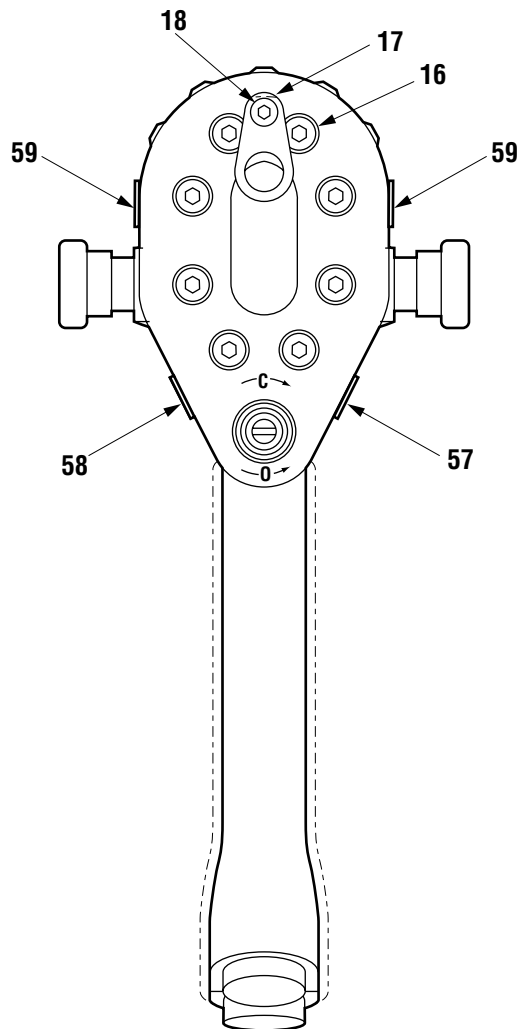

Figure 6
### Motor (See Figures 6, 7, and 9)
1. Remove reversing spool (19) by loosening and removing cap (24) on left side of tool and pulling spool (19) out right side of tool.
*Note: For tool orientation (left and right) grip tool as you would use it and view tool looking at motor cap (6). See Figure 6.*
*Note: Attempting to push the reversing spool (19) the opposite way through the bore will cause damage to O-rings (25 and 26) and could allow particles of O-ring to get into motor.*
2. Remove plug (22), spring (21) and poppet (20).
3. Repeat procedure for right side of reversing spool (19).
*Note: If set screws (23 and 60) have not been disturbed and internal components are returned to the same side of spool (19), the relief valve setting may not have been affected and tool will perform properly when assembled.*
### Motor (See Figures 6, 7 and 9)